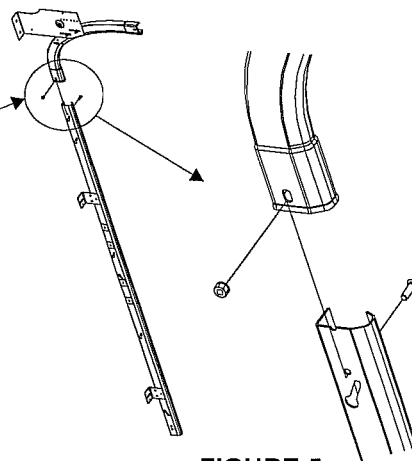

FIGURE 5
- Install the transitional curve and headplate assembly on the vertical track assembly by sliding the vertical track into the swaged end of the curve track.(See Figure 5)